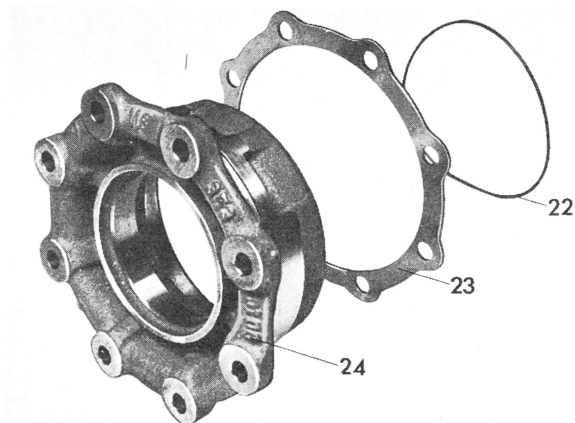

Fig. 6
7 Remove sealing rings (22). Remove compensating washers (23) for adjusting backlash or inclination and mark together with bearing covers (for left and righthand end) (Fig. 6).